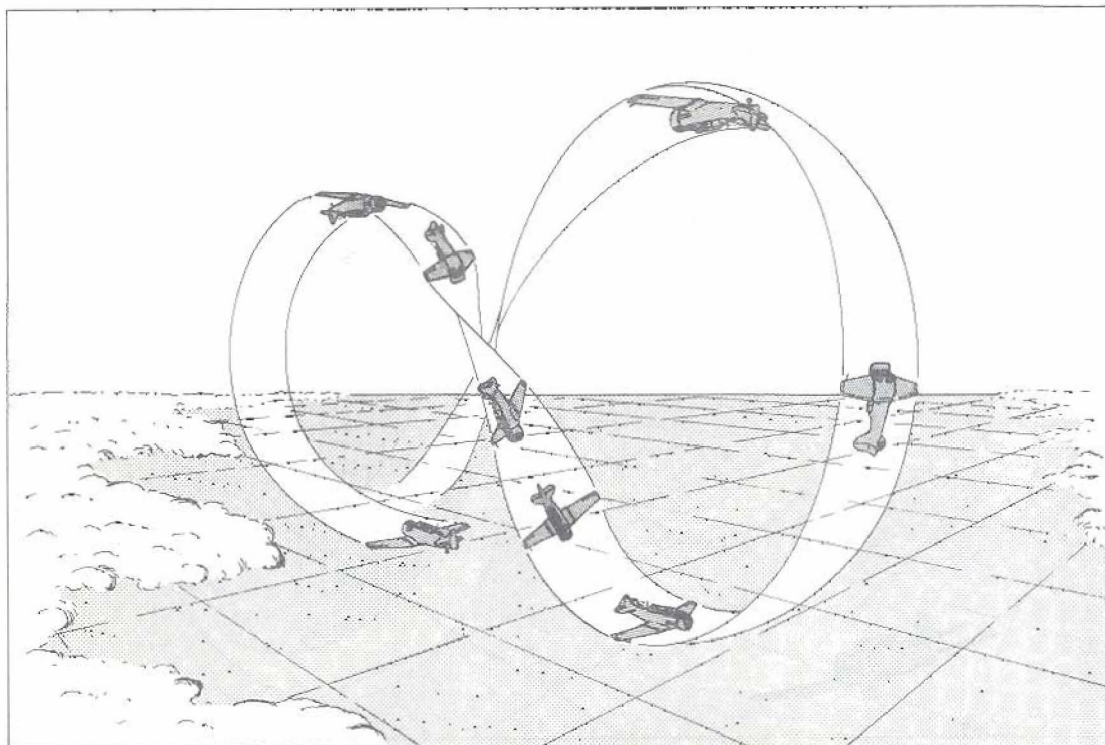

Figure 5: The Cuban Eight
(1) A cuban eight is a manoeuvre combining portions of the loop and the slow roll. The airspeed, the method of entry and the initial stages of the exercise are the same as for the loop, up to the point of the aircraft becoming inverted. Here, after checking the approaching horizon, you must look beyond it to a spot approximately 45 degrees lower, and pick a suitable reference point. As the nose nears this point, release the back pressure and begin a half roll around the spot, co-ordinating aileron and rudder pressures. During the roll, as the wings become vertical you will have to apply forward pressure along with gradually increasing top rudder to maintain directional control. As soon as the wings become level, centralize the controls and start a pull-up at a constant rate to achieve an airspeed of 155K as the nose cuts through the horizon. Repeat this procedure, rolling in the opposite direction as shown in Figure 5, and finishing up on your original heading with an airspeed of 155K.
(2) If the airspeed is higher than 155K when the aircraft passes through the horizon, or if excessive back pressure has been necessary during the pull-up, your reference point for the roll-out has been more than 45 degrees below the horizon. If you have had to lower the nose to achieve 155K, your reference point has been too close to the horizon.